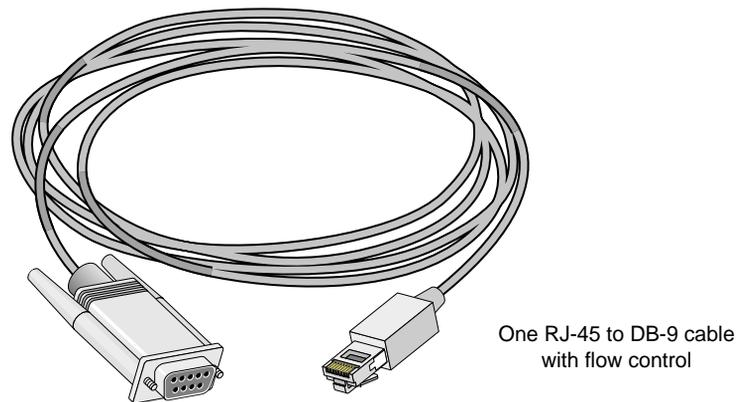

Figure 5-9 Items Needed to Connect an SGI Origin 350 Server to an SGIconsole
5. Make sure that you have the following items (shown in Figure 5-9):